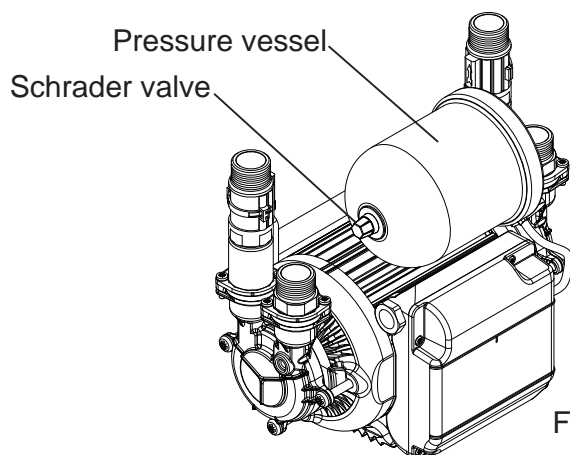

Fig. 15
- Check air charge at Schrader valve (Fig. 15) using a tyre pressure gauge.